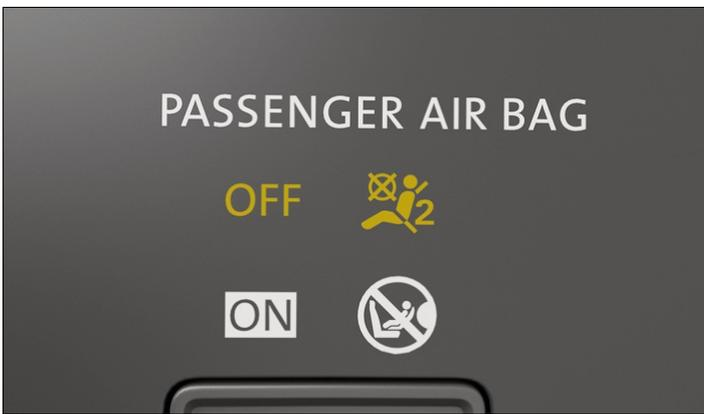

Fig. 3 In the centre console: indicator lamp for deactivated front passenger front airbag (depending on country).
**OFF**  The yellow indicator lamp lights up continuously → Fig. 3. The front passenger front airbag has been switched off.